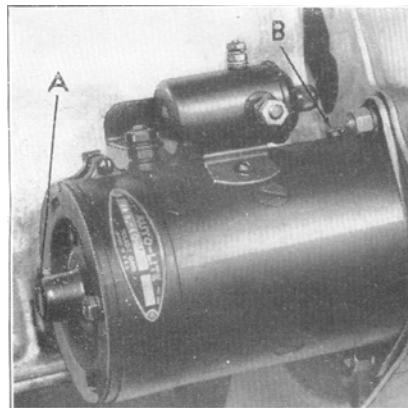

Figure 23
The starting motor, Fig. 23, is located at the rear left corner of the engine and is fitted with a separate solenoid switch. Control of the starting motor is by means of a push button located on the instrument panel to the right of the ignition lock.
LUBRICATION — Two small oilers are provided for lubrication of the bearings. Every 2,000 miles the two oilers, (A) and (B), see Fig. 23, should be lubricated with a few drops of light engine oil. *Do this sparingly to prevent over-oiling.*